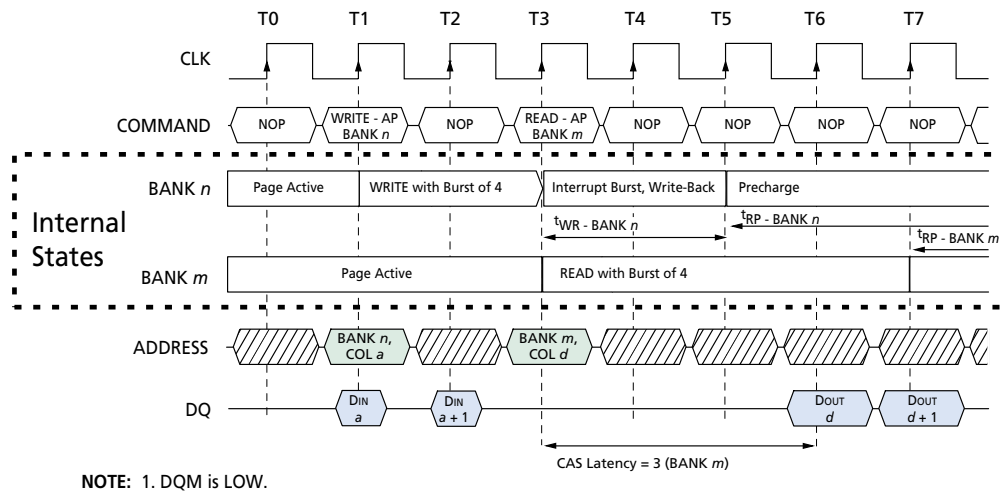

Figure 26
3. Interrupted by a READ (with or without AUTO PRECHARGE): A READ to bank m will interrupt a WRITE on bank n when registered, with the data-out appearing CAS latency later. The PRECHARGE to bank n will begin after t_{WR} is met, where t_{WR} begins when the READ to bank m is registered. The last valid WRITE to bank n will be data-in registered one clock prior to the READ to bank m (Figure 26).